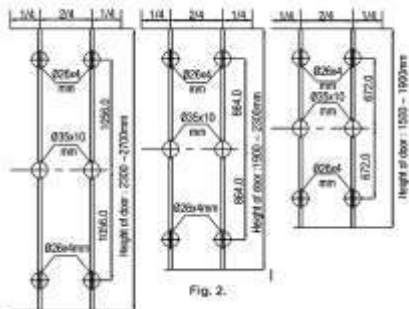

Fig. 2.
3. Cut the round cavities in door shown in Fig. 2